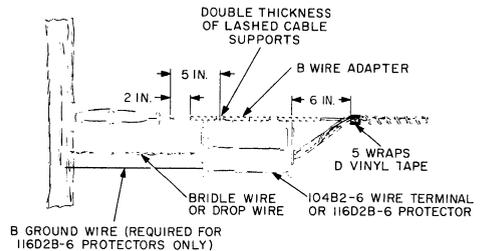

Fig. 1—Multiple Line Wire Deadend
- (1) Place the 3-wire set first, starting at the center which is marked by paint, as shown in Fig. 3. Place the 3-wire set (gauge by eye) on the support wire so that it is centered at the terminal clamp nearest the pole (Fig. 1). Wrap the set so it is spiraled around the
- (2) Place the second 3-wire set for 120 size or first 2-wire set for 109 size next to the first 3-wire set, being sure to match the paint marks at the center so the ends will be approximately even. It is installed in a similar manner to the 3-wire set.
- (3) Place the last 2-wire set in the gap left between the other sets and match the paint marks so the ends will be about even. Install as described in (1).
- (b) Start the second B Wire Adapter on the support wire with the paint mark about 3 inches from the end of the first B Wire Adapter so that it is centered at the far terminal clamp. (Fig. 1).